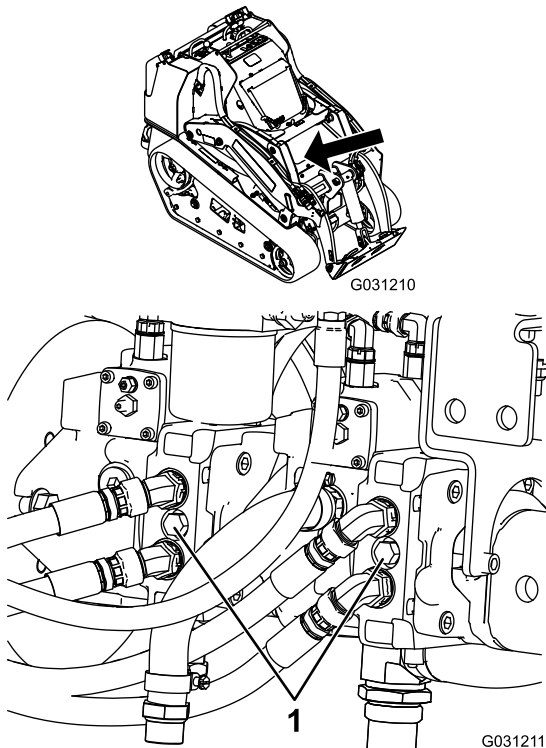

Figure 31
4. Using a wrench, turn the tow valves on the hydraulic pumps twice counter-clockwise (Figure 31).